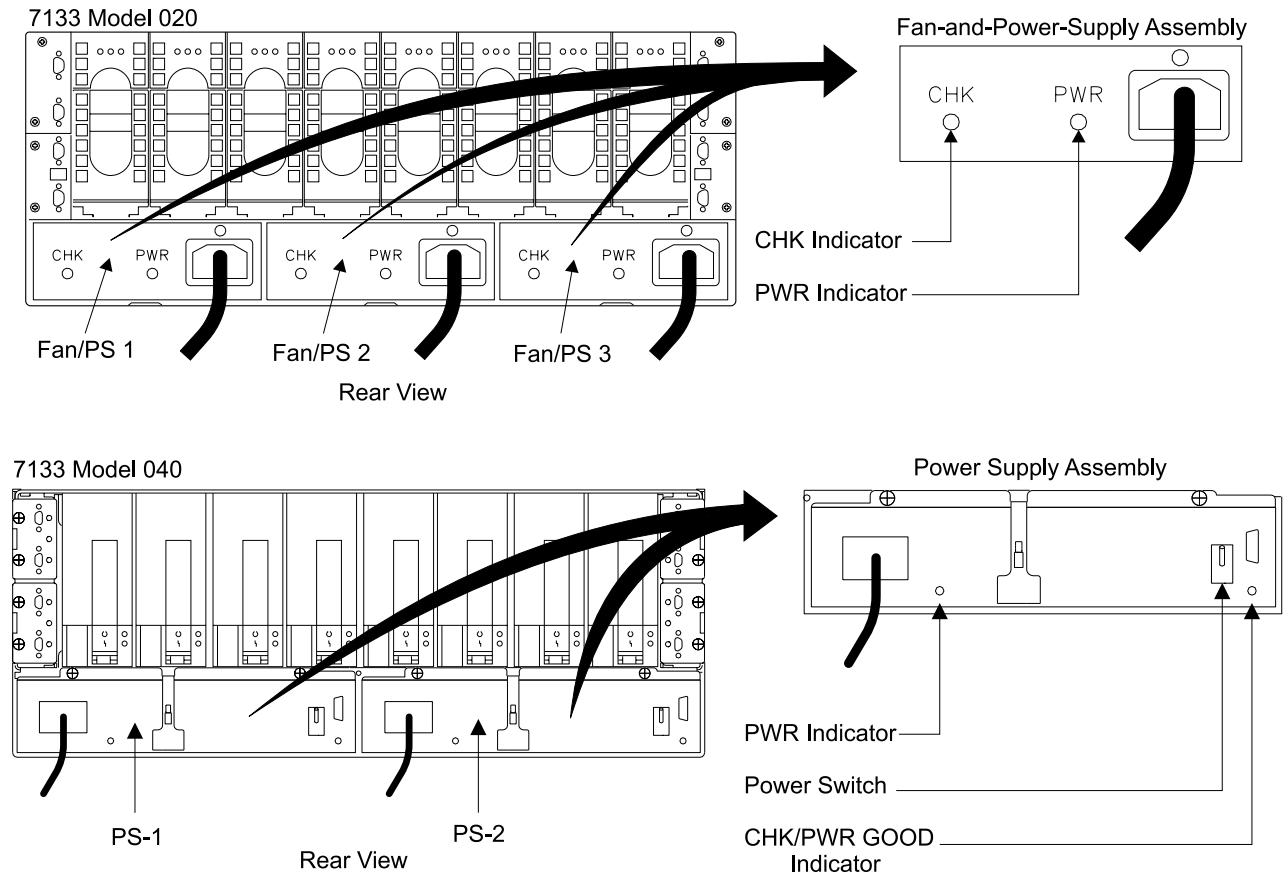

Figure 112. SSA DASD Model 020 and 040 Drawer PWR (Power) Indicator Locations (S008030p)
1. Observe PWR (power) indicators on the fan-and-power-supply assemblies in the failing drawer, see Model 020 drawer in Figure 112 on page 218.